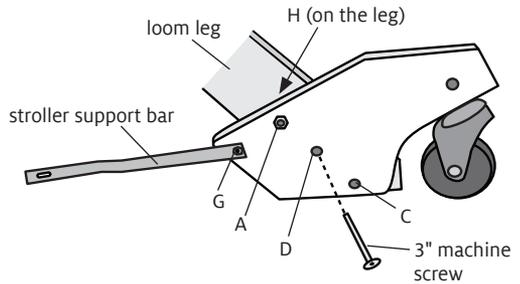

FIGURE 3
3. Install the caster blocks to the outside legs and the rear leg brace. Remove the trusshead bolts (B) holding the rear leg brace to the outside legs. This time you will install the caster block with the new 3" machine screw through the center hole (D) in figure 3. Tighten the bolt firmly into the barrel nut. Repeat for the other rear leg.
6. Attach the metal support bar to the rear caster block. From the inside of the loom insert a 1 1/2" hex bolt through the hole (G) in the rear caster block. Place a washer on the bolt and then place the circular hole at the end of the metal support bar (S) over the bolt so that the jog in the bar points inward. Secure with a lock nut. Tighten the lock nut, allowing the support bar to pivot (figure 3). Repeat for the other rear caster block.
7. Using the stroller. Fold the loom. Tighten the fold-up knobs and secure the slide lock bars to prevent the loom from opening. You will notice that the loom is now sitting on its stroller wheels. Remove the wing nut from the bolt at (G) on the front caster blocks. Place the slots at the front end of each metal support bar over these bolts, replace the wing nuts and tighten.